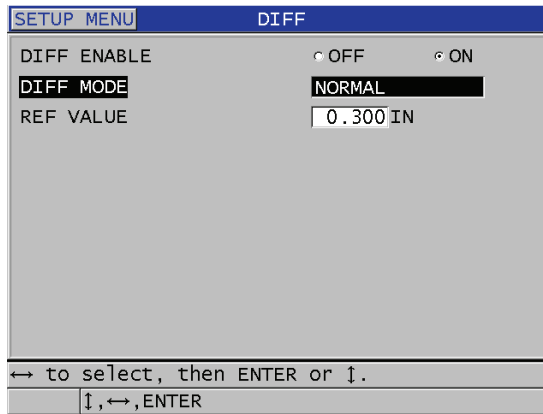

Figure 8-2 The DIFF screen
3. In the **DIFF** screen (see Figure 8-2 on page 111):